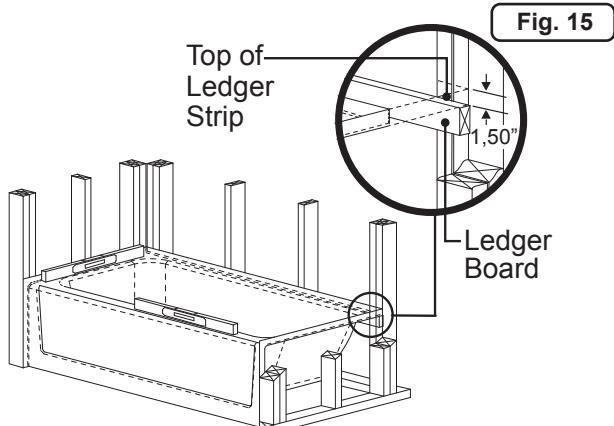

Fig. 15
2. Place the tub in the alcove with the front skirt firmly on the floor. The bathtub must be set level. To check, use a level on top of the ledges on both ends of tub and on top of dam (Figure 15).
3. After leveling tub, mark each stud (concrete or block wall) immediately above the back horizontal flange. Remove tub from alcove. Measure the distance between the top of the back horizontal flange and the bottom of the tub ledge approximately $1\frac{1}{2}$ " (40 mm). Carefully mark this dimension on the back studs (or wall), below the first mark (Figure 15 - inset).
4. Install a Ledger Strip: Jacuzzi mandates the use of supports under the rear ledges of bathtubs to prevent shifting. Use horizontal ledger strip along the entire rear ledge or "I", "T" supports in at least two places in vertical position. Nail a 1" x 3" (25 mm x 75 mm) ledger strip immediately below the lower marks made on framing (Figure 15 - inset).